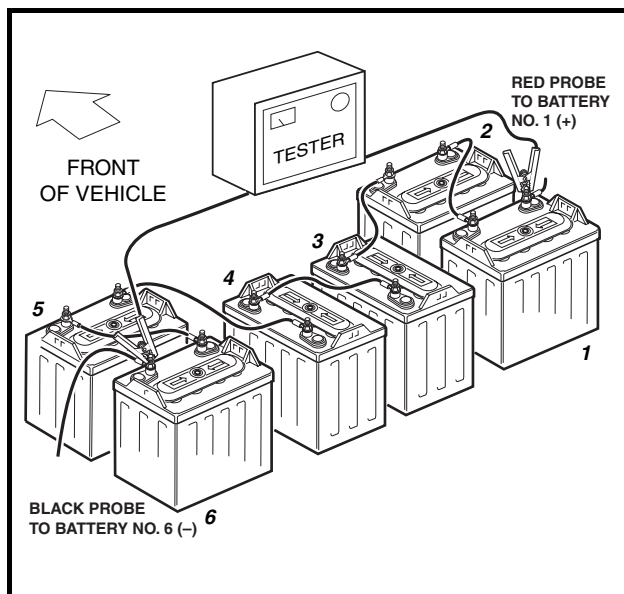
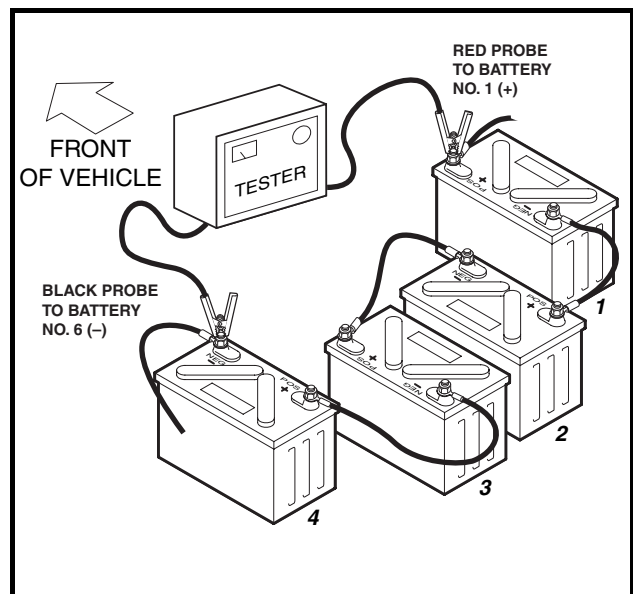

Figure 14-6 Turf1/Carryall1 Battery Discharge Test
Figure 14-7 DS and DS Villager 4 Battery Discharge Test
2. Connect the tester leads to the positive (+) post of battery no.1 and negative (-) post of battery no. 6 last (Turf 1/Carryall 1) (**Figure 14-6, Page 14-9**) or no. 4 last (DS/DS Villager 4) (**Figure 14-7, Page 14-9**).